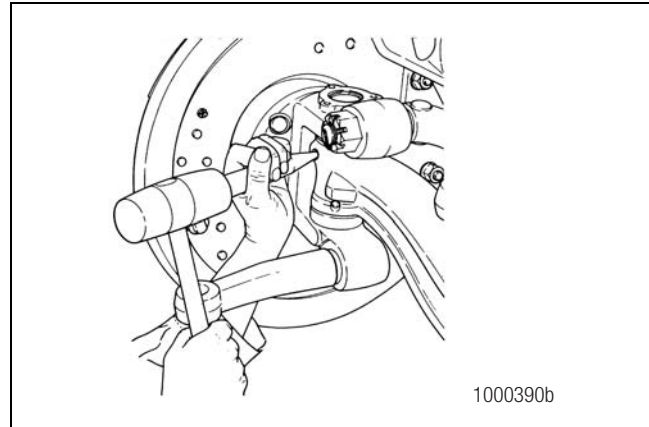

Figure 4.16
- **For plain draw keys:** Use a brass hammer and a steel drift to remove the draw key. Place the drift onto the small, "D"-shaped end of the key. Figure 4.16.